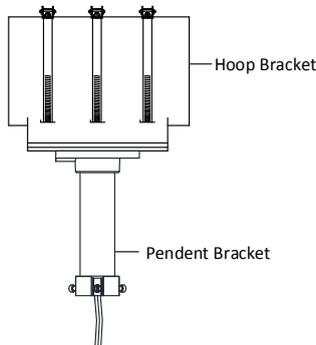

Figure 1-8 Assemble the Hoop Bracket and Pendent Bracket
- 3) Fix the two brackets with four screws, flat washer and spring washer, as shown in Figure 1-8.